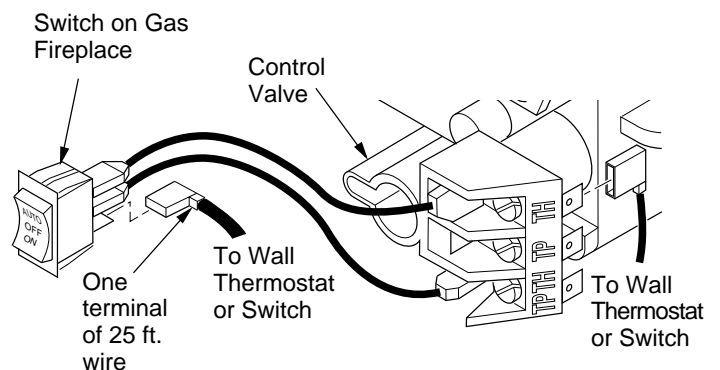

Figure 41 - Connecting Wire Terminals
1. Connect one terminal of 25 ft. wire to bottom contact of switch (see Figure 41).
2. Connect remaining wire terminal to the “TH” terminal on the control valve. Make sure that wire terminals are in the positions on your unit as pictured in Figure 41. If wires are not “crossed” the thermostat will not work.
- Connect one terminal of 25 ft. wire to bottom contact of switch (see Figure 41, page 21).
- Connect remaining wire terminal to the “TH” terminal on the control valve. Make sure that wire terminals are in the positions on your unit as pictured in Figure 41, page 21. If wires are not “crossed” the thermostat will not work.